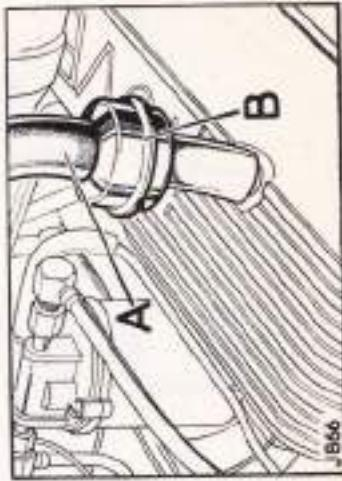

Fig. 4 Engine flame trap, left-hand illustrated
**Engine flame traps. (Fig. 4)**